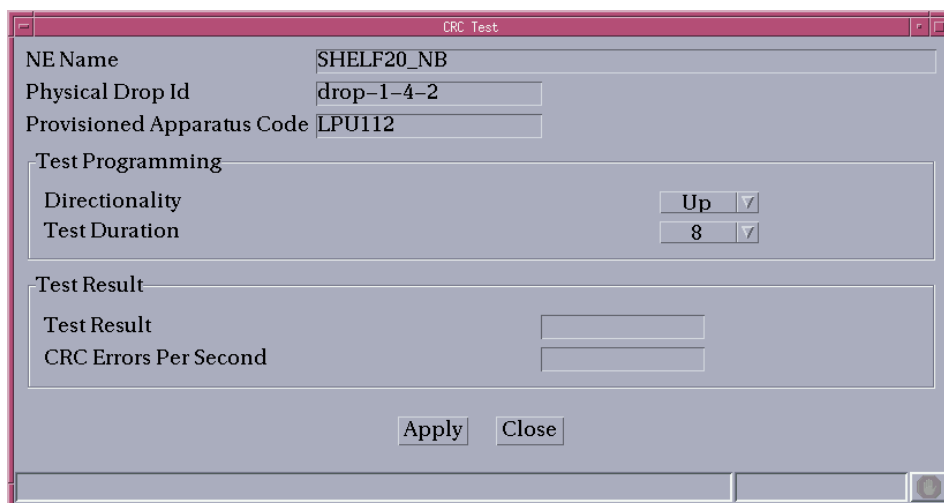

Figure 8-12 CRC Test window
6. Wait until the *CRC Test* window appears (cf. Figure 8-12, page 8-35) and view the test result.